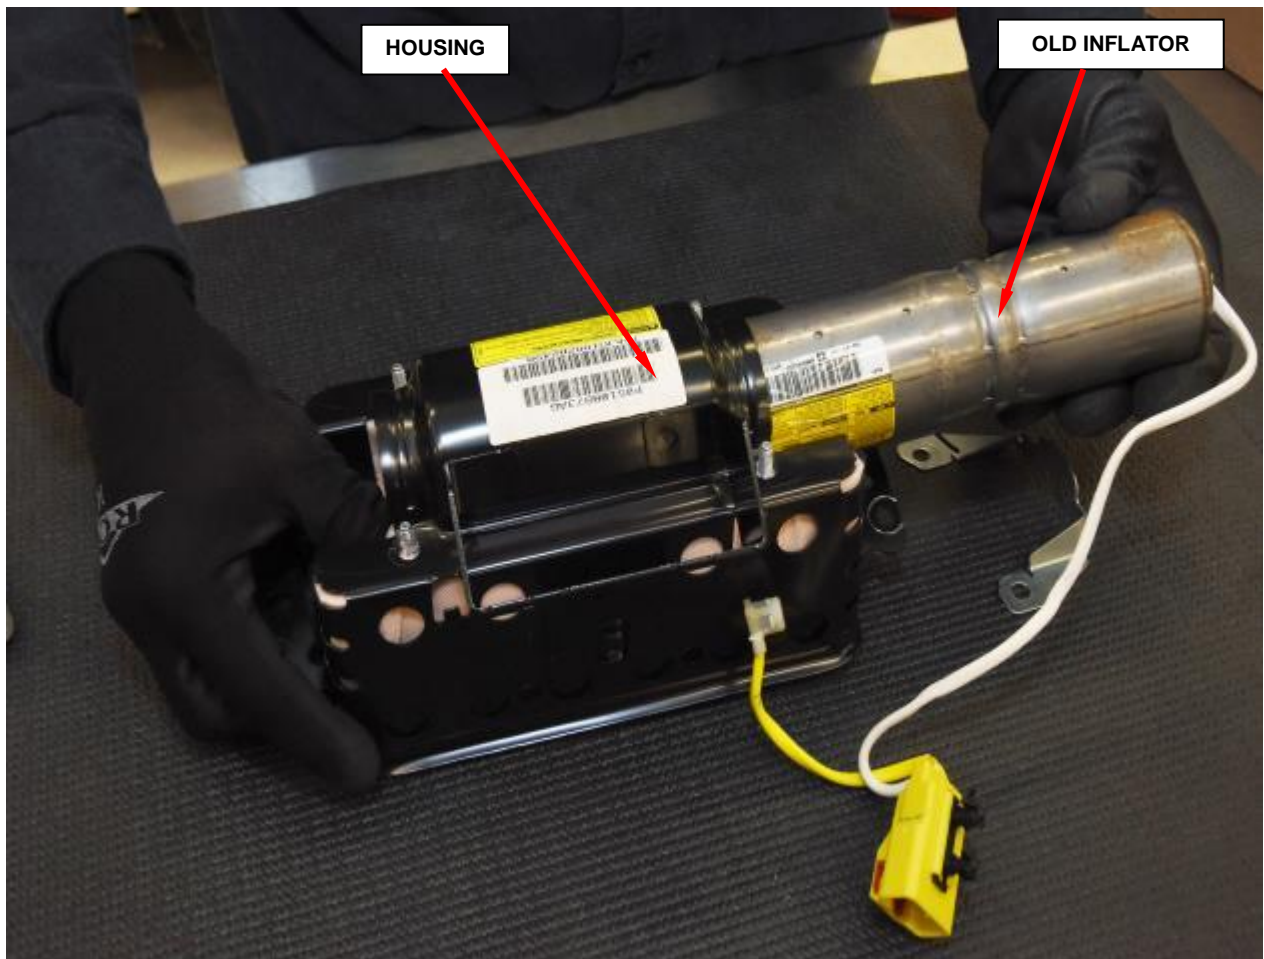

Figure 42 – Passenger Airbag Inflator Removal
- g. Slide the inflator out of the housing (Figure 42).